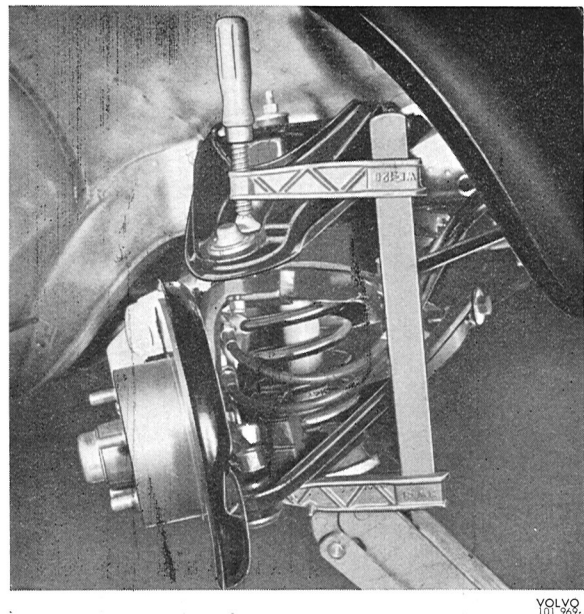

Fig. 6-26. Upper ball joint securely held by vise
3. Turn down the control arm and tighten the nuts for the control arm shaft. Tighten the ball joint against the steering knuckle. If the pin rotates, hold it firmly with a screw vise, see Fig. 6-26.
4. Install the steering knuckle and tighten the nuts of the upper and lower ball joints. If the pins rotate, fix them securely with a screw vise, see Fig. 6-26. Install the steering rod and lower the jack in order to take the load off the control arms. Point the wheels straight forwards and fasten the brake hoses to the stabilizer screw.